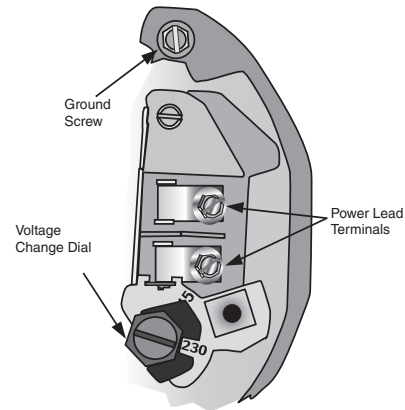

FIGURE 8 - VOLTAGE SET TO 230 VOLT CURRENT. ROTARY SELECTOR
- ◆ Refer to Figure 8 for wiring configuration.
- ◆ Connect current-carrying conductors to terminals L1 and L2. When replacing the motor, check wiring diagram on the motor nameplate. For 3-phase motors or motor's whose wiring diagram does not match Figure 8, follow the diagram on the motor.